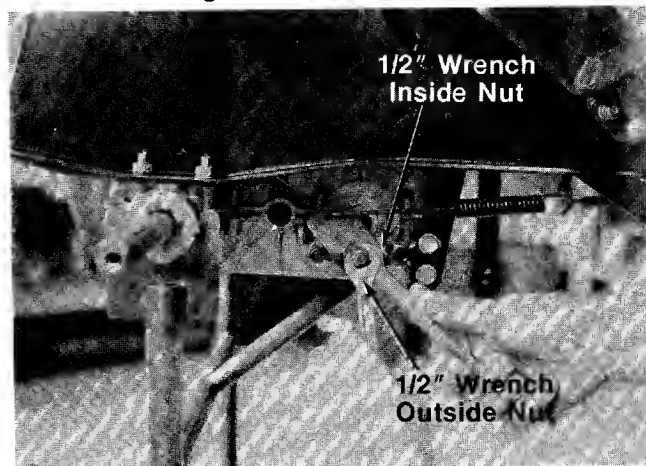

FIGURE 24.
3. Tighten the outside nut against the inside nut, two 1/2" wrenches. See figure 24.